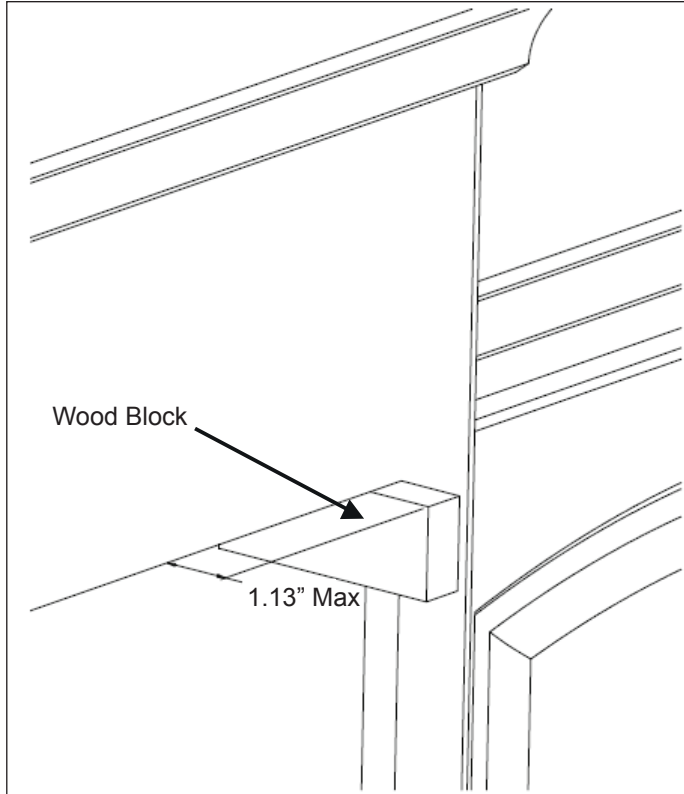

Figure 14
12. a. Add 1" X 2" X 4" long wood blocks to each inside upper corner of kitchen cabinets. (Fasteners or blocks not included.) (See Figure 14.)